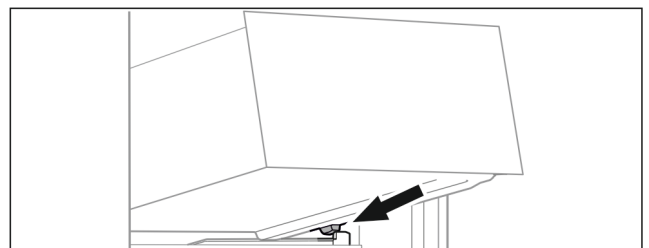

Fig. 20
- ▶ Place drawer on the molded ribs behind the stoppers with the drawer tilted up at the front Fig. 20 ().